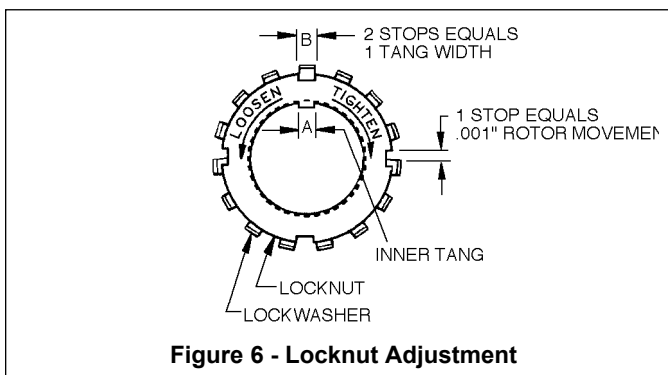

Figure 6 - Locknut Adjustment
- Hand pack the ball bearing (24) with grease. Refer to the "Lubrication" section for the recommended grease.
- Install the bearing (24) into the head recess. The bearing balls should face outward, with the grease shield inward. The bearing must be fully and squarely seated in the head (20).
- Turn the pump casing around and remove the outboard head (20) previously installed.
- Install the outboard head (20), mechanical seal (153) and bearing (24) as instructed in steps 6 through 11.
- Rotate the shaft by hand to engage the mechanical seal drive tangs, and to test for binding or tight spots. If the rotor does not turn freely, lightly tap the rims of the heads (20) with a soft faced mallet until the correct position is found. Install all of the remaining head capscrews (21) for each head and uniformly torque to 30 lbs ft (47 Nm).
It is important that the bearing locknuts (24A) and lockwashers (24B) be installed and adjusted properly. Overtightening locknuts can cause bearing failure or a broken lockwasher tang. Loose locknuts will allow the rotor to shift against the discs (71), causing wear. See Figure 6.
- Tighten both locknuts (24B) to ensure that the bearings (24) are bottomed in the head recess. **DO NOT** overtighten and bend or shear the lockwasher inner tang.
- Tighten the opposite locknut (24A) by hand until it is snug against the bearing (24). Then, using a spanner wrench, tighten the nut the width of one lockwasher tang. Tighten just past the desired tang, then back off the nut to align the tang with the locknut slot. Secure the nut by bending the aligned lockwasher tang into the slot in the locknut. The pump should continue to turn freely when rotated by hand.
- Inspect the grease seal (104) for wear or damage and replace as required. Grease the outside diameter of the grease seal and push it into the inboard bearing cover (27) or bracket mount (108) with the lip of the seal inward (towards the pump).
- Attach a new bearing cover gasket (26) and the inboard bearing cover (27) to the inboard head (20). Install the outboard bearing cover (27A) and a new gasket to the outboard head. Make sure the grease fittings (76) on the bearing covers are accessible. Install and torque the bearing cover capscrews (28) to 30 lbs ft (47 Nm).
- On flange mounted pumps, the bracket mount takes the place of the inboard bearing cover (27). To attach the bracket mount to the head, install a new bearing cover gasket (26) and the four mounting screws (28A).